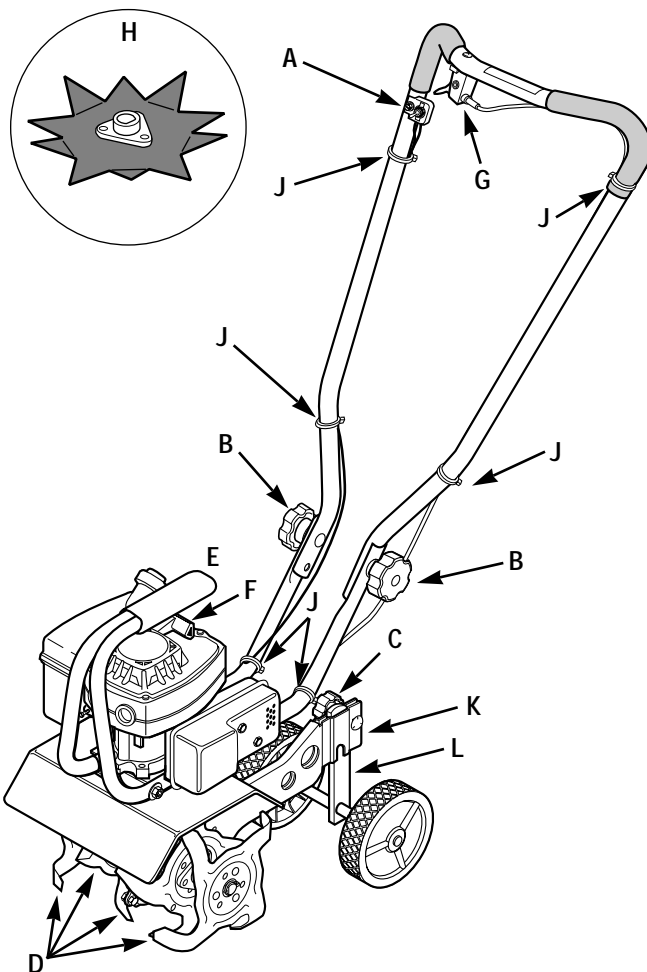

Figure 5: Features and controls.
The Border/Edger Attachment (H, Figure 5) does not need to be installed until you are ready to do edging projects (refer to instructions in this Section).
### Handlebar Height Adjustment Knob (B, Figure 5)
### Tilling Depth Adjustment Knob (C, Figure 5)
### Adjustable Tine Patterns (D, Figure 5)
### Carrying Handle (E, Figure 5)
### Edger Attachment (H, Figure 5)
### Engine On/Off Switch (A, Figure 5)
### Throttle/Tines Lever (G, Figure 5)
### Engine Recoil Start Rope (F, Figure 5)
3. Check the six plastic cable ties (J, Figure 5). Be sure that cables and ties are positioned as shown. Do not kink or pinch the control cables in the handlebar.
To stop the engine, move the On/Off Switch (A, Figure 5) to the OFF position.